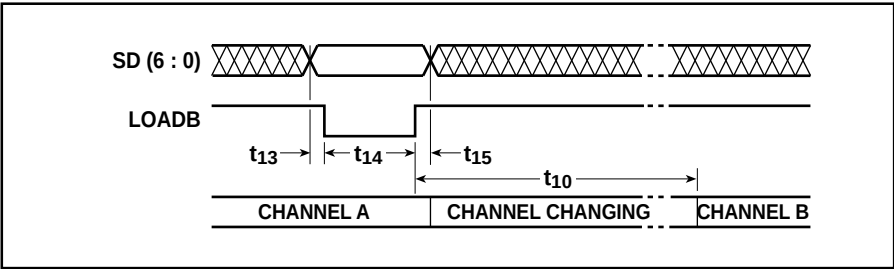

Fig. 4 Channel strobe timing diagram
9. Transmitter/Receiver Frequency Agility (t_{10} – see Figs. 4,5,6 and 7)
10. Transmit/Receive Frequency Select (t_{13}, t_{14} and t_{15} – see Fig. 4)